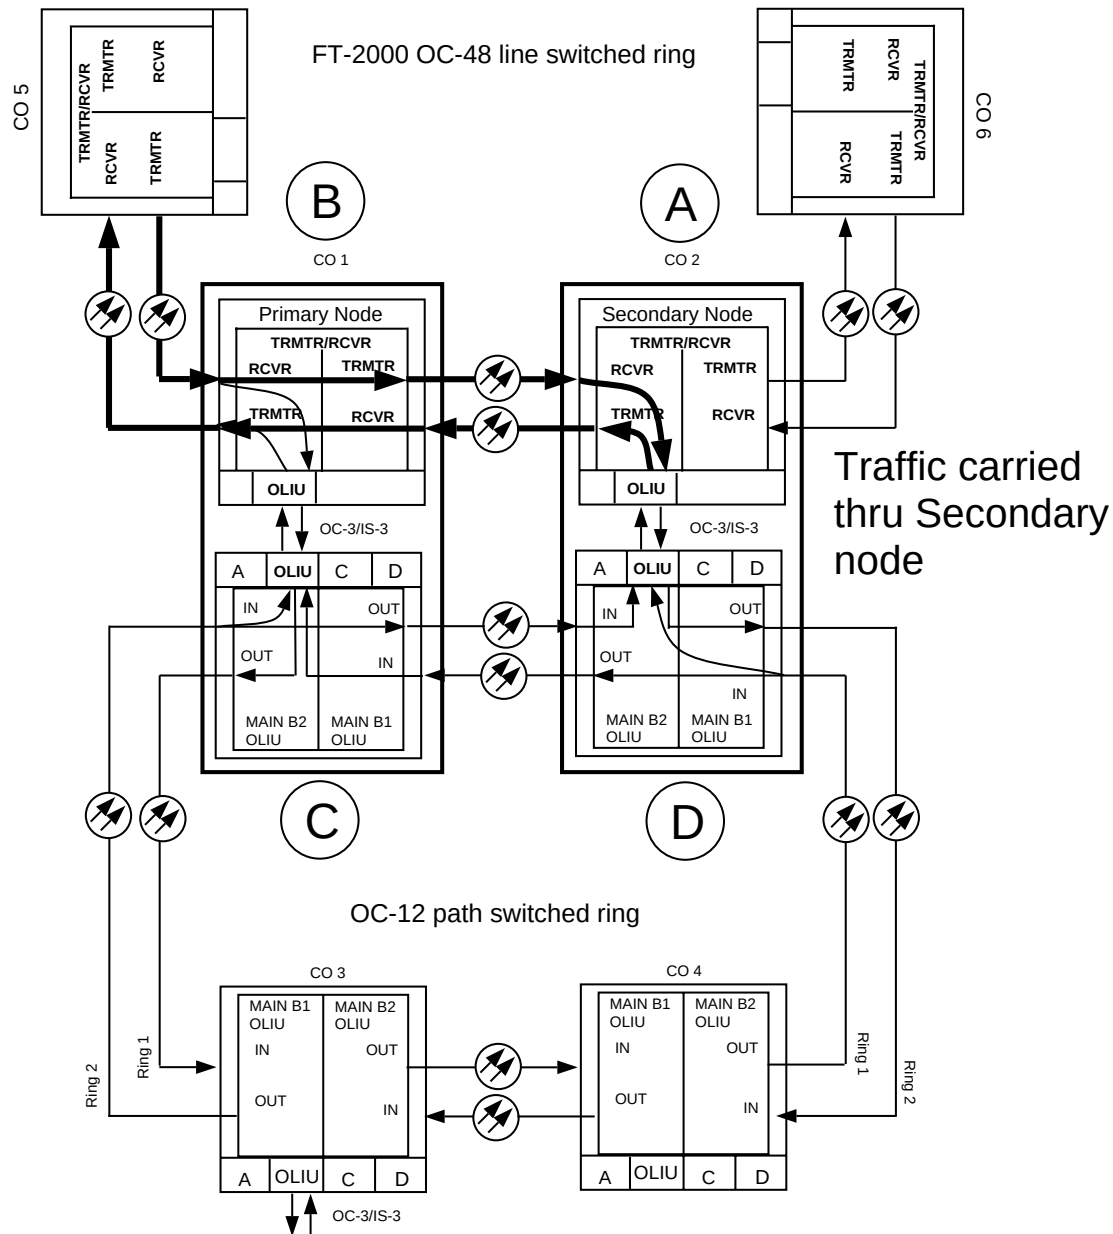

Figure 2. OC-12/OC-48 DRI Interworking
16. At the FT-2000 **primary** node, use the **FAULT-Switch-Path-STS3-Line-Manual** command to switch the designated tributary from primary node to secondary node. (Switch traffic to secondary node.) See Figure 2.
18. At the OC-12 node associated with the FT-2000 **primary** dual ring interworking node, remove both **3STS1E** circuit packs from function unit slots being upgraded to **OLIUs** (for example, node C in Figure 2).
20. At the FT-2000 **primary** dual ring interworking node (for example, node B in Figure 2), use FT-2000 procedures in 365-575-103, *FT-2000 OC-48 Lightwave System, Releases 8.0 and 8.1, User/Service Manual*, **Delete DS3 and/or EC-1 Low Speed Port(s)**, **NTP-003**.
27. Perform end-to-end OC-3/IS-3 line test at DRI nodes associated with the FT-2000 primary node (for example, nodes B and C in Figure 2). **DLP-552**